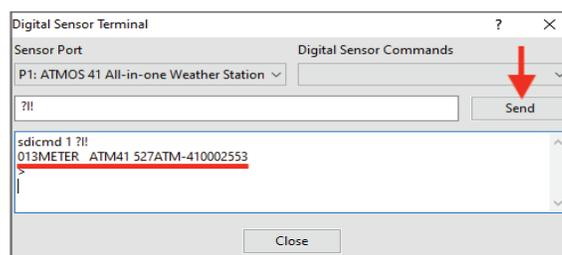

Figure 21 ?I! command response
8. Click the **Send** button to return sensor information (Figure 21).
When SDI-12 address is 0, the returned output should be similar to **013METER ATM41 XXXATM-41000XXXX** (Figure 21).